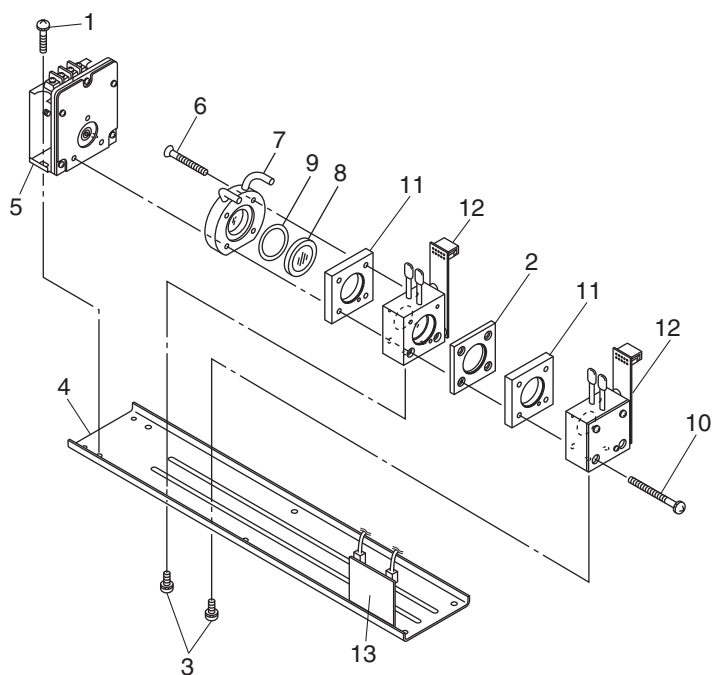

Fig. 7-1 Configuration of measuring unit (block cell)
**a. How to remove block cell (See Fig. 7-1)**